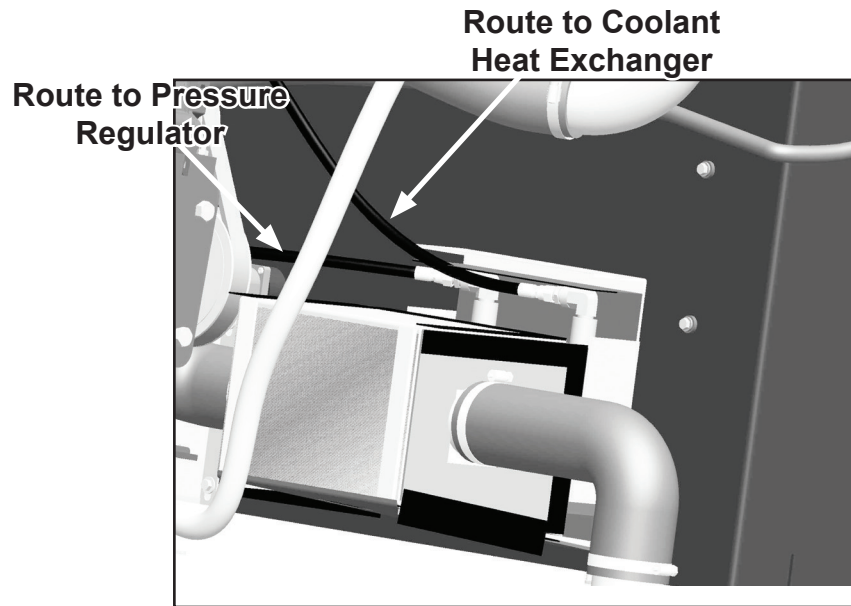

Figure 37. Connect 3/8" Teflon Hoses and Route
5. Connect two 3/8" Teflon® hoses with JIC ends to the elbow on the Salsa (see Figure 37).